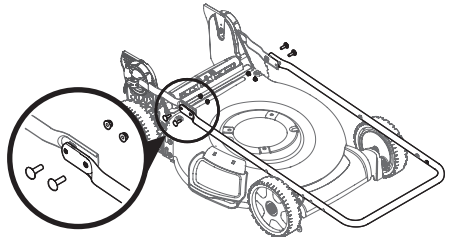

Figure 12
- Using the four carriage bolts and nuts removed in STEP 2, secure the upper handle to the lower handle. Tighten hardware securely to secure the handle in place (Figure 12).